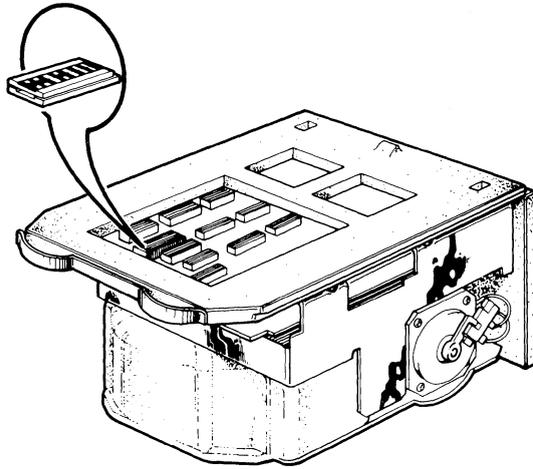

Figure 3-29 RD51 Disk Drive and Shunt Jumper
**3.3.2.1 Factory Configuration** – The read/write printed circuit board on the RD51 has a DIP shunt jumper consisting of seven breakable metal strips (Figure 3-29). Table 3-31 lists the setting for the jumpers.